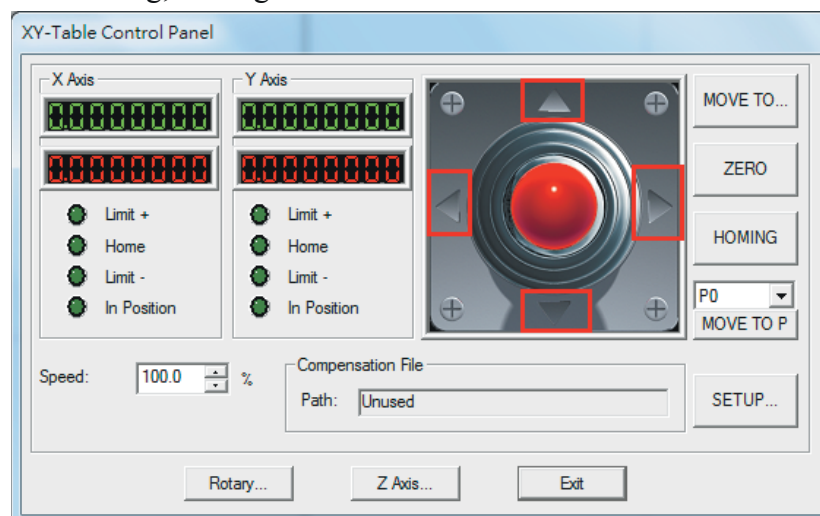

Fig. 1.7.24
To control the XY Table, users must first activate the XY table function by clicking the layer object in Object Browser and then go to the XY Table page of Property Table and enable this function. After doing this, click  button and do the further setting, see Fig.1.7.24.
2. Click the four direction buttons (the red part of Fig.1.7.24) to move the XY Table.